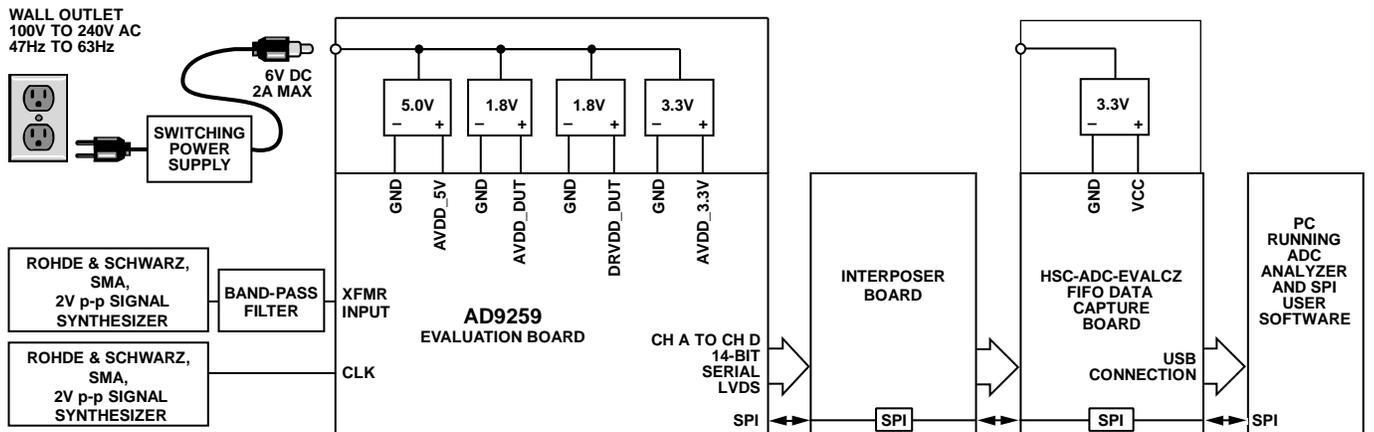
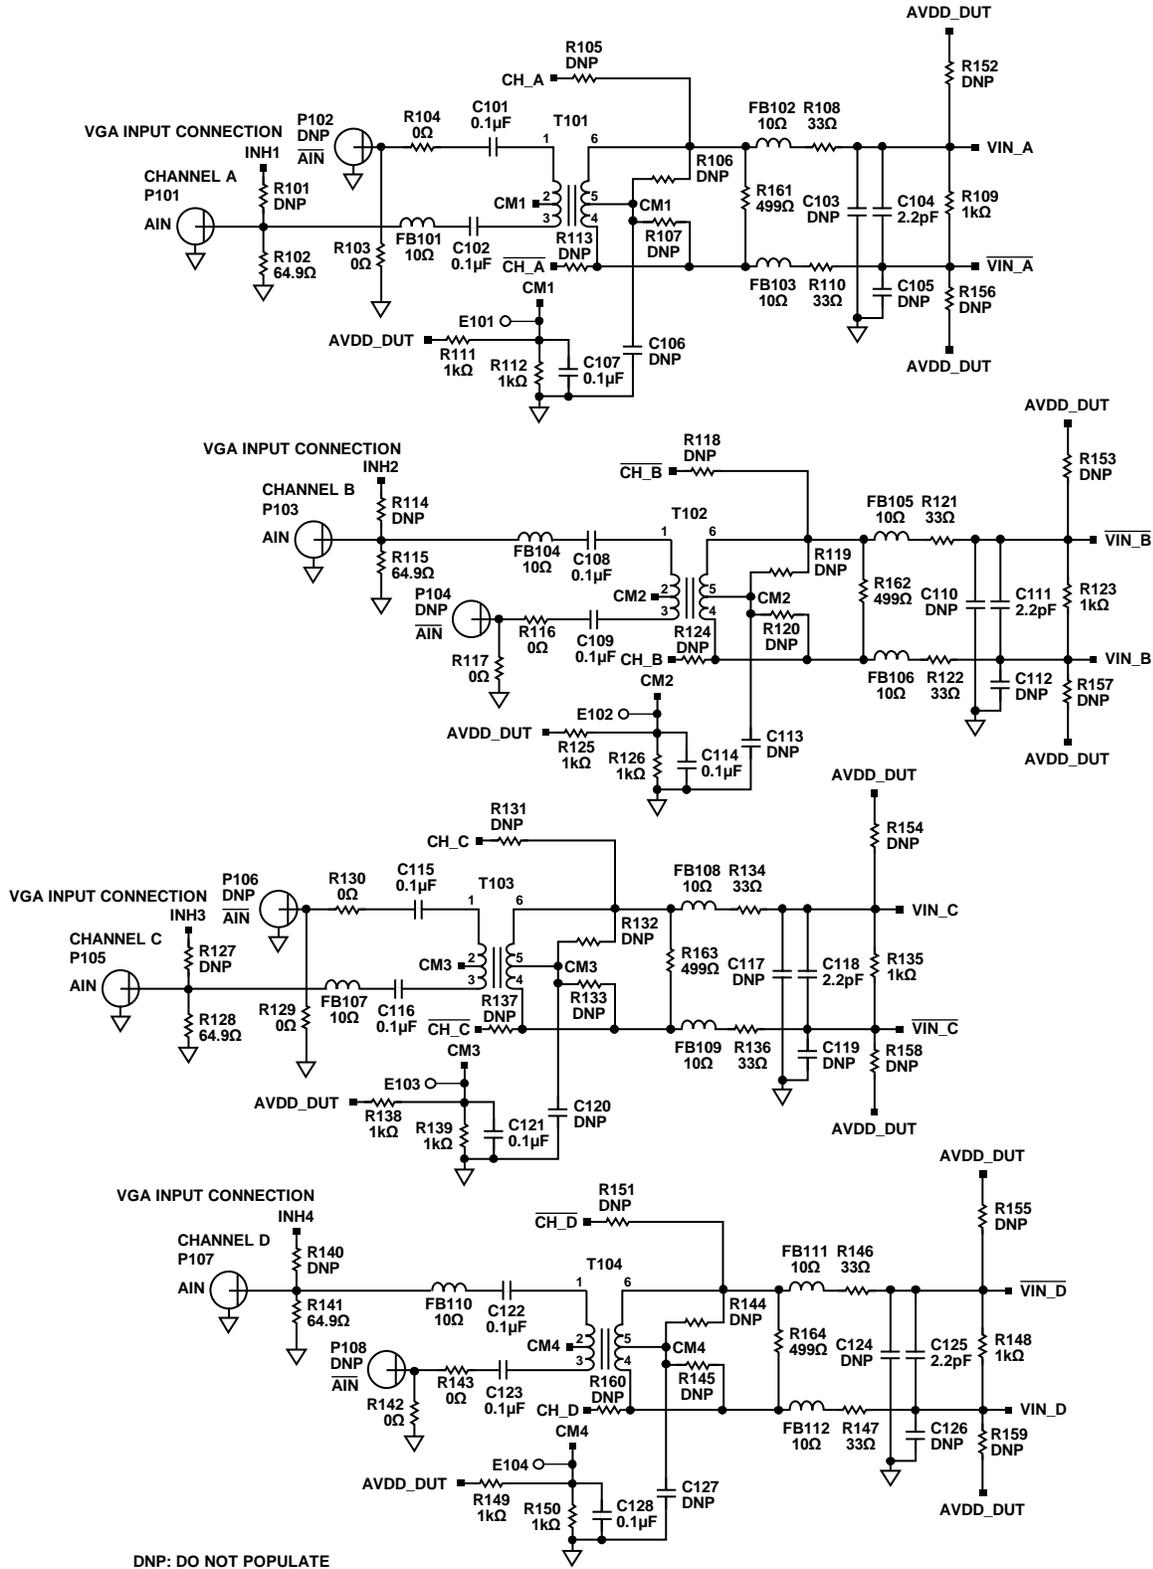
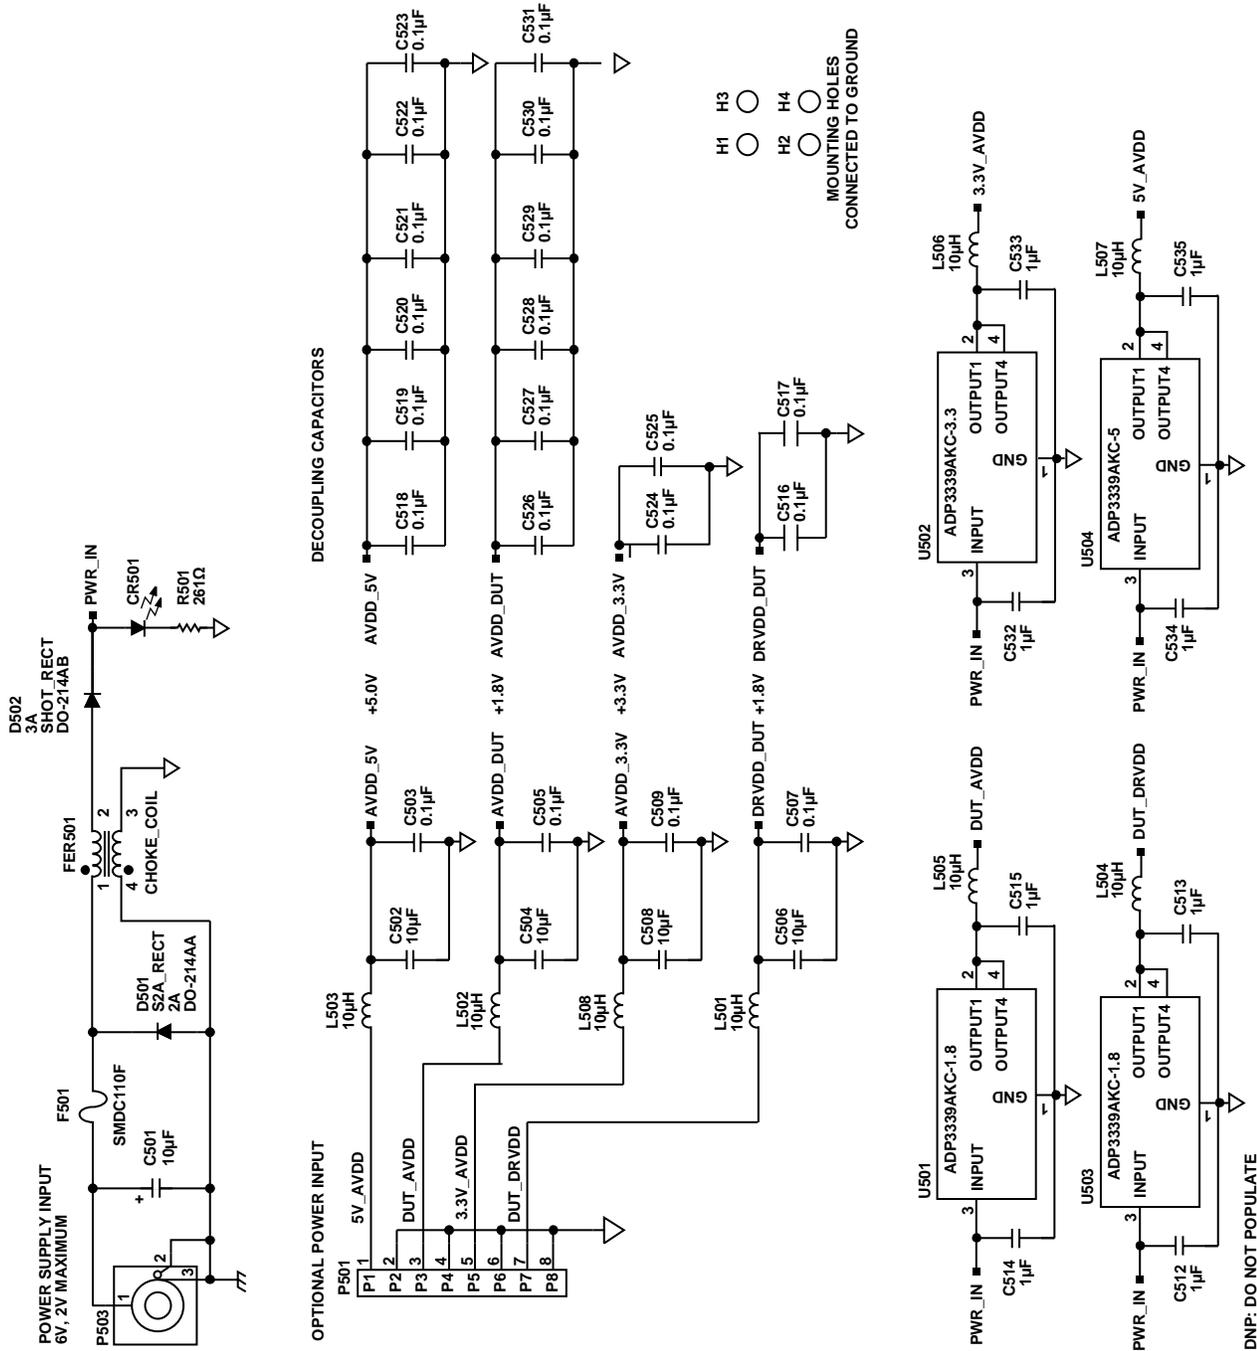
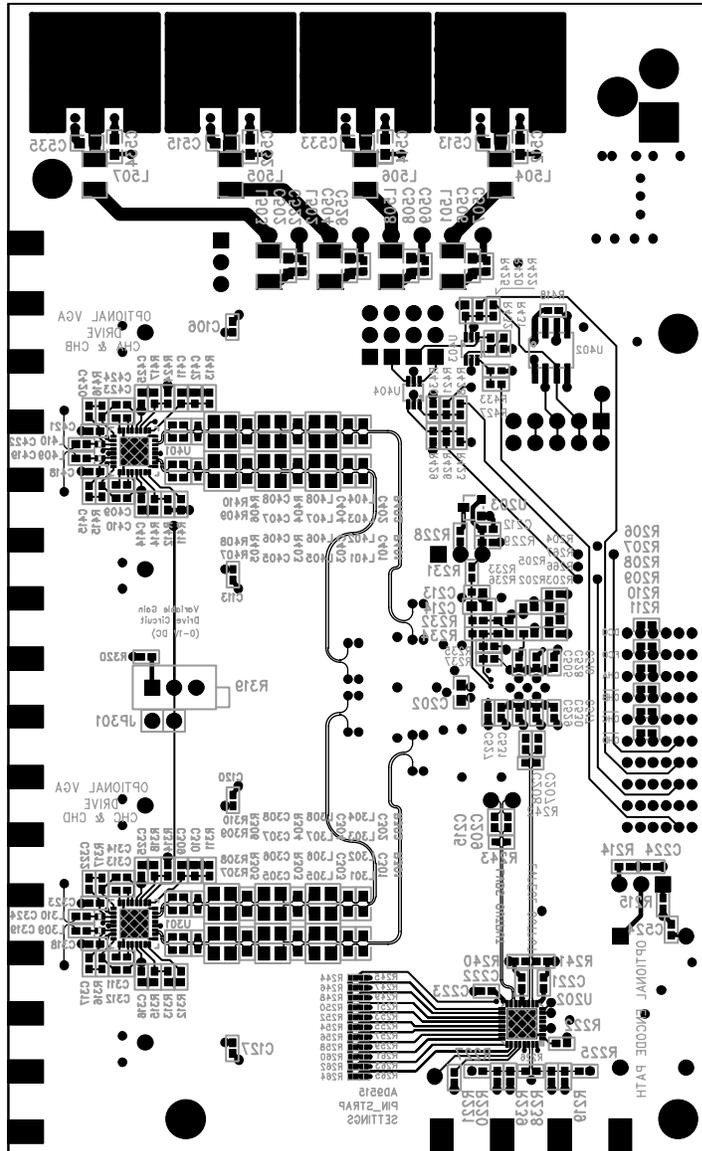

Figure 60. Evaluation Board Connection
Figure 62. Evaluation Board Schematic, DUT Analog Inputs
Figure 66. Evaluation Board Schematic, Power Supply Inputs
Figure 70. Evaluation Board Layout, Secondary Side (Mirrored Image)
The AD9259 evaluation board provides all of the support circuitry required to operate the ADC in its various modes and configurations. The converter can be driven differentially using a transformer (default) or a AD8332 driver. The ADC can also be driven in a single-ended fashion. Separate power pins are provided to isolate the DUT from the drive circuitry of the AD8332. Each input configuration can be selected by changing the connection of various jumpers (see Figure 62 to Figure 66). Figure 60 shows the typical bench characterization setup used to evaluate the ac performance of the AD9259. It is critical that the signal sources used for the analog input and clock have very low phase noise (<1 ps rms jitter) to realize the optimum performance of the converter. Proper filtering of the analog input signal to remove harmonics and lower the integrated or broadband noise at the input is also necessary to achieve the specified noise performance.
See Figure 62 to Figure 70 for the complete schematics and layout diagrams demonstrating the routing and grounding techniques that should be applied at the system level.
- **D + x, D - x:** If an alternative data capture method to the setup shown in Figure 60 is used, optional receiver terminations, R206 to R211, can be installed next to the high speed back-plane connector.